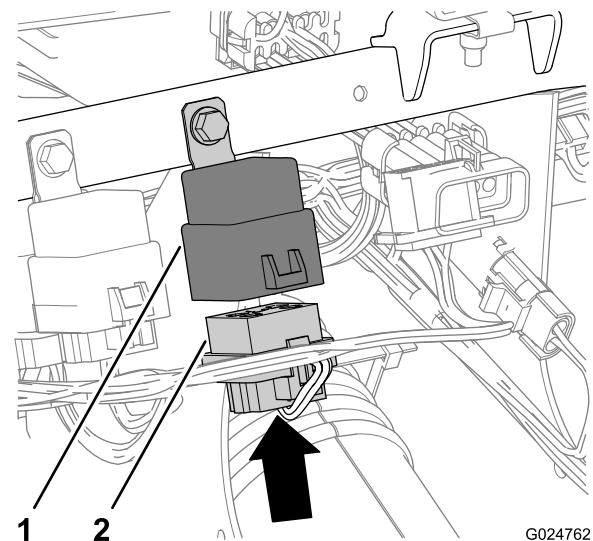

Figure 38
3. Connect the 5-socket connector of the front-wiring harness of the machine (labelled "FRONT DIFF RELAY") to the 5 blade connector of the relay (Figure 38).